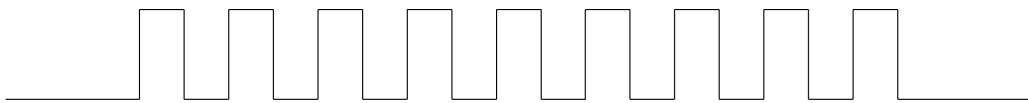

Figure 37-3. Master Clock Positive Waveform
- **Scenario 2:** The clock sent by the master device is not a free-running clock, and the clock waveform is as shown in Figure 37-3.
Requirement: The master device should invert the original clock and convert it to the waveform as Figure 37-3 shows before output.